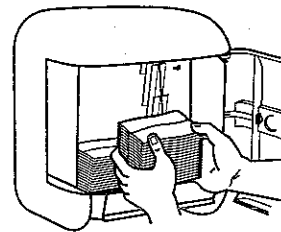

Figure 8
2. Place tissue pack into dispenser. If dispenser was completely empty to start, place a second tissue pack on top of the first. Dispenser will hold a **maximum of 2-1/2 tissue packs per side** (Figure 8).